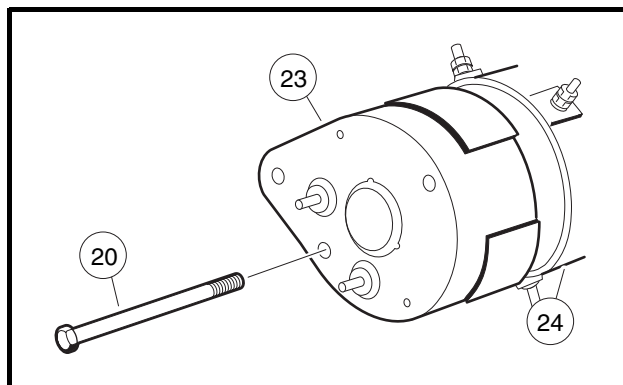

Figure 12-2 Commutator End Cover
1. Remove the two bolts (20) and pull commutator end cover (23) free of starter/generator housing (24) (Figure 12-2, Page 12-2). See following NOTE.
3. Install the commutator end cover (23) onto the armature shaft. Align the locating pin and hole in the cover. Install two M6 x 180 mm bolts (20) and tighten to 100 in-lb (11.3 N·m) (**Figure 12-2, Page 12-2**).
1. Remove the two bolts (20), and pull commutator end cover (23) free of the starter/generator housing (24) (**Figure 12-2, Page 12-2**). See following NOTE.
9. Install the commutator end cover (23) onto the armature shaft. Align the locating pin and hole in the cover. Install the two M6 x 180 mm bolts (20) and tighten to 100 in-lb (11.3 N·m) (**Figure 12-2, Page 12-2**).